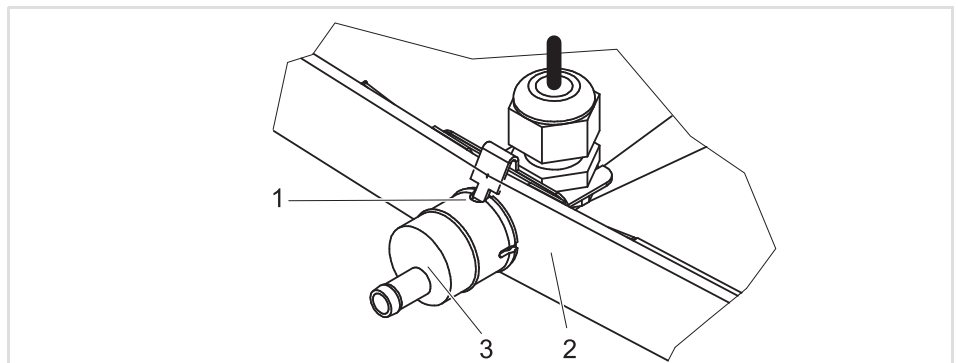
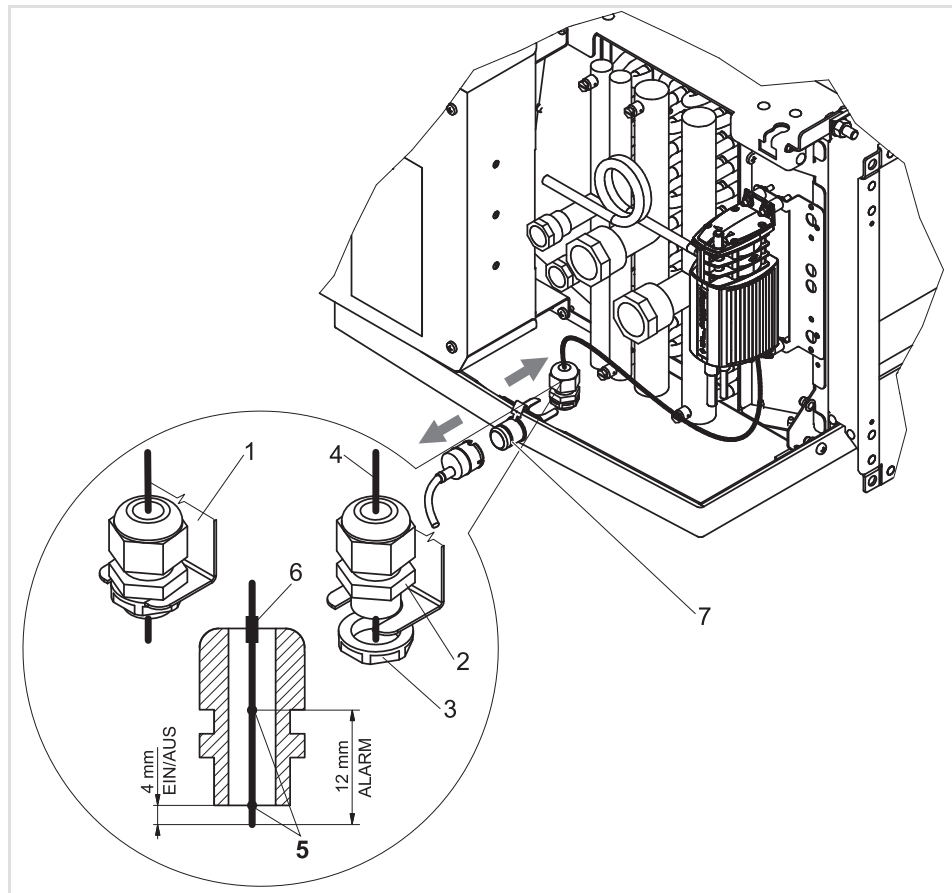
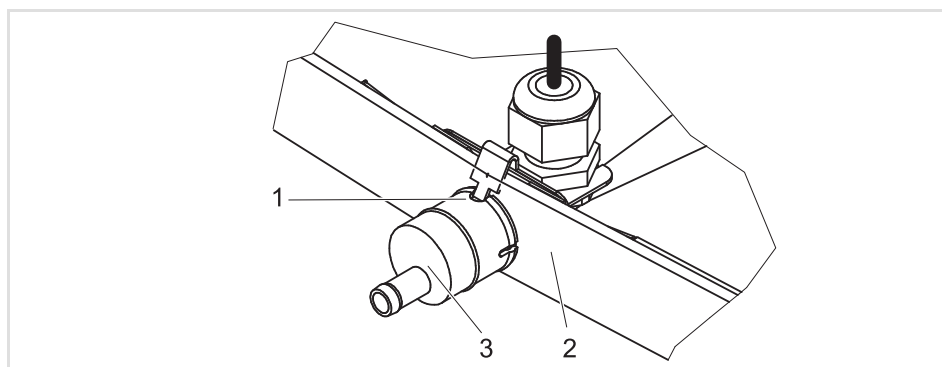

Fig. 8-5: Assembly of the plastic end piece of the suction hose of the condensate pump
Fig. 8-11: Clean the humidity sensor
Fig. 8-12: Assembly of the plastic end piece of the suction hose of the condensate pump
Lubricate the drain connection of the condensate tray including the O-ring (see Fig. 8-12, Pos. 7) with lubricant. Set the plastic end piece of the suction hose of the condensate pump (see Fig. 8-5, Pos. 3) on the fittings of the condensate tray outflow (see Fig. 8-5, Pos. 2) until it sits firmly. Note for the assembly of the end piece that the half-round hole at the edge of the end piece (see Fig. 8-5, Pos. 1) is on the upper side.
- Loosen and remove nut of the cable passage (see Fig. 8-11, Pos. 3), the cable passage (see Fig. 8-11, Pos. 2) along with cable and sensor (see Fig. 8-11, Pos. 4), this way it can be detached from the sensor holder (see Fig. 8-11, Pos. 1).
- Fix the cable and sensor again in the lead-through so that the cable sits in the lead-through with its broader part (refer to Fig. 8-11, Pos. 6); make sure that the sensor position is correct (refer to Fig. 8-11, Pos. 5).
- Lubricate the drain connection of the condensate tray including its O-ring (see Fig. 8-11, Pos. 7) with lubricant. Set the plastic end piece of the suction hose of the condensate pump (see Fig. 8-12, Pos. 3) on the intake fitting of the condensate tray (see Fig. 8-12, Pos. 2) until it sits firmly. For the assembly of the end piece of the condensate pump, make sure that the half-round hole at the edge of the end piece (see Fig. 8-12, Pos. 1) is on the upper side.